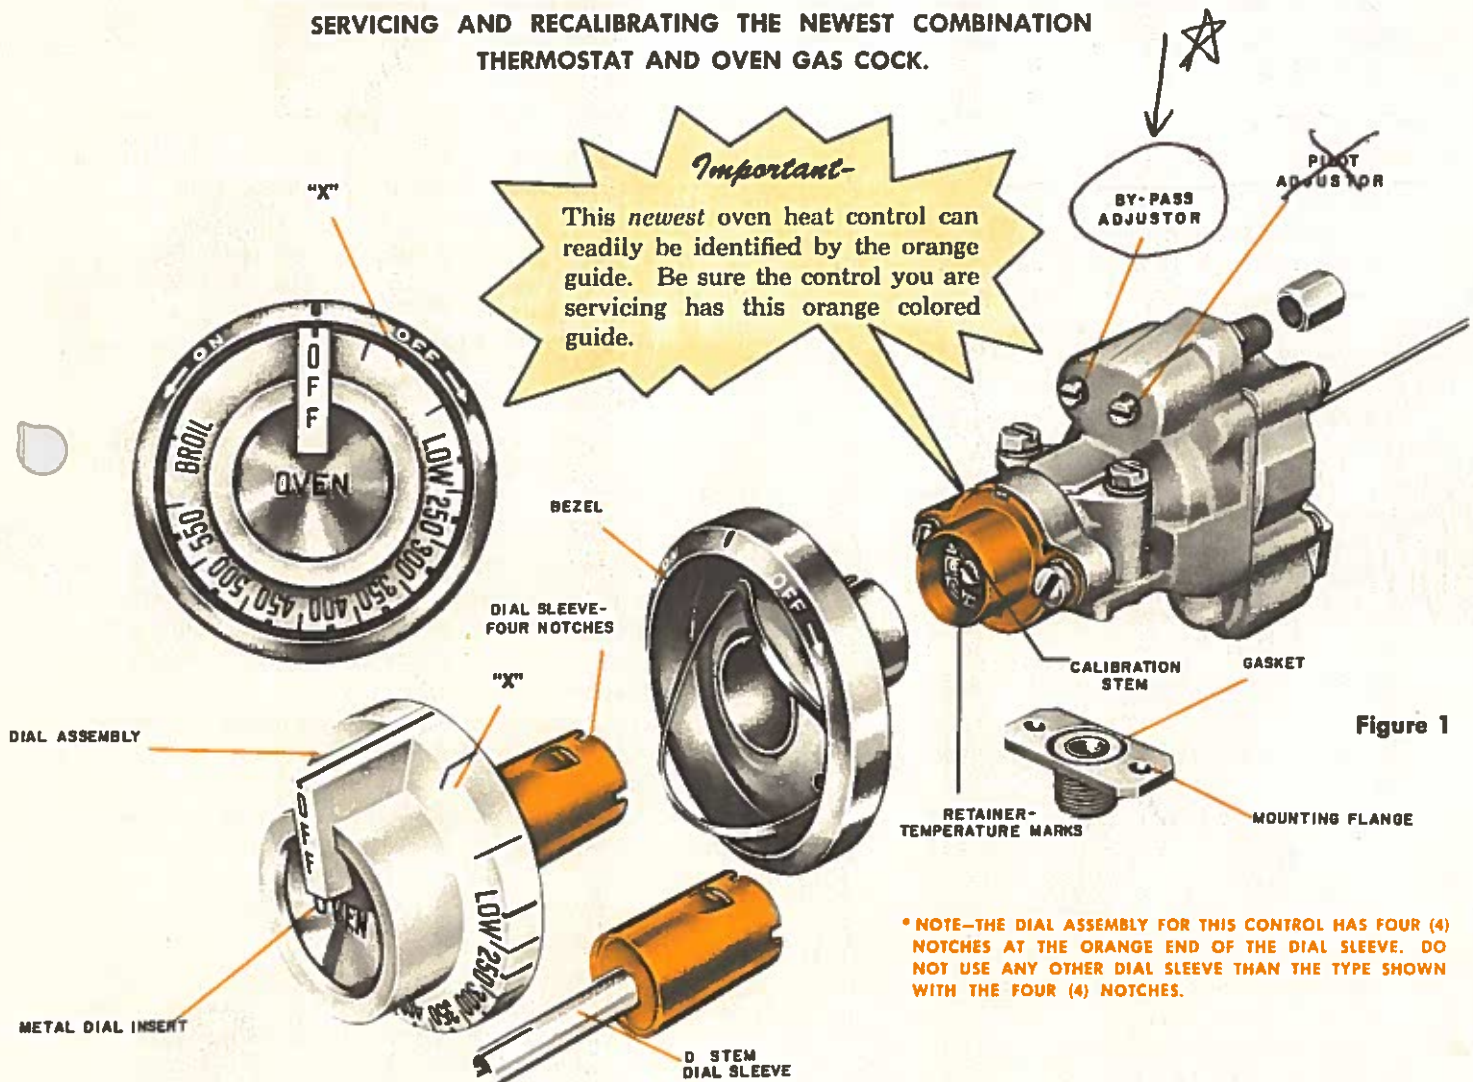

Figure 1
### ADJUSTMENTS—(See Figure 1)
1. Remove dial and push out metal insert. (See Figure 1)
5. Hold dial firmly, insert screw driver through center of dial, and push calibration stem (See Figure 1) inward. (Do not turn this stem)
When the oven reaches the temperature at which the dial is set, the oven control cuts down the flow of gas to the amount required to keep the oven at that temperature. Always, however, the control must by-pass enough gas to keep the entire burner lighted. To maintain this minimum flame, *the by-pass must be set carefully and accurately*, as follows—(See Figure 1)
5. Push calibration stem (See Figure 1) inward with screw driver, while holding calibration stem firmly in, turn slot clockwise to obtain a lower temperature or counter-clockwise for a higher temperature. Each mark on retainer represents 25 degrees. Replace dial assembly or "D" type stem with dial.
6. Set dial at 450 mark. Check oven temperature again, as instructed in (2) and (3). If the oven temperature is not within 20 degrees of the dial setting (450 degrees), it means that the sensing element is inoperative and the control should be replaced.